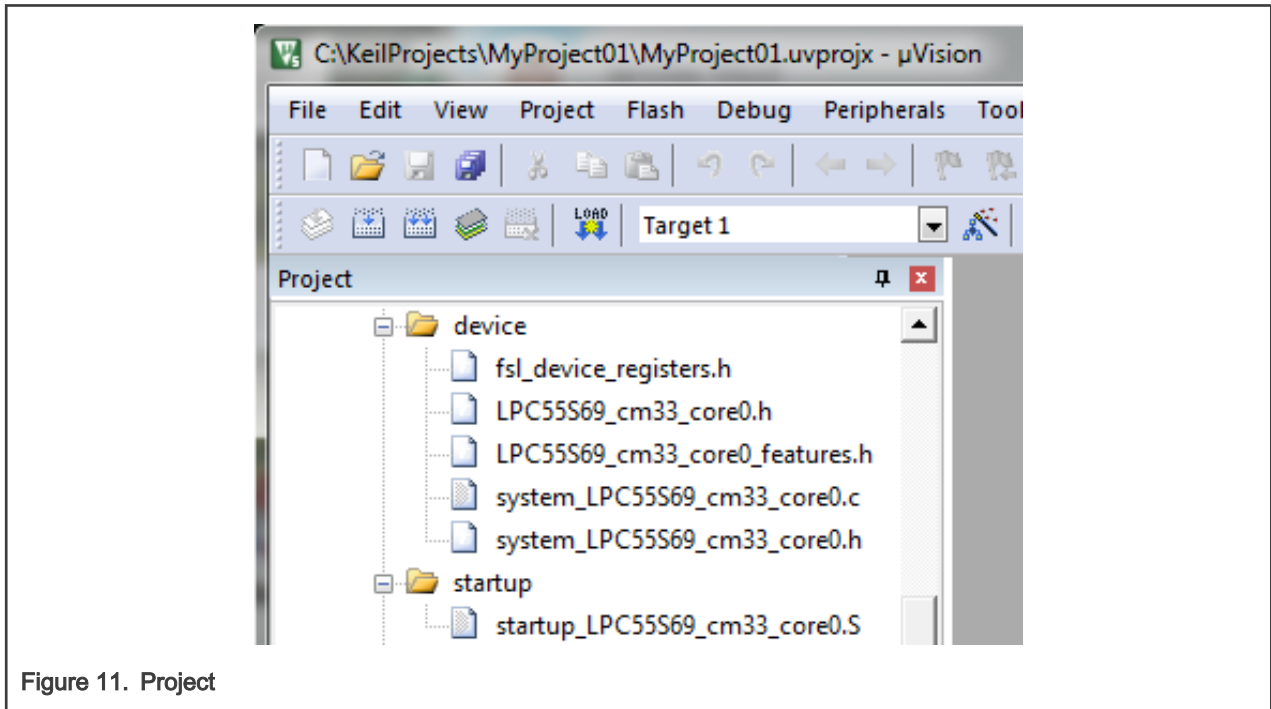

Figure 11. Project
10. Click OK, and a new project is created. The new project is now visible in the left-hand part of Keil uVision. See Figure 11.
13. Select Use Single Precision in the Floating Point Hardware option. See Figure 11.